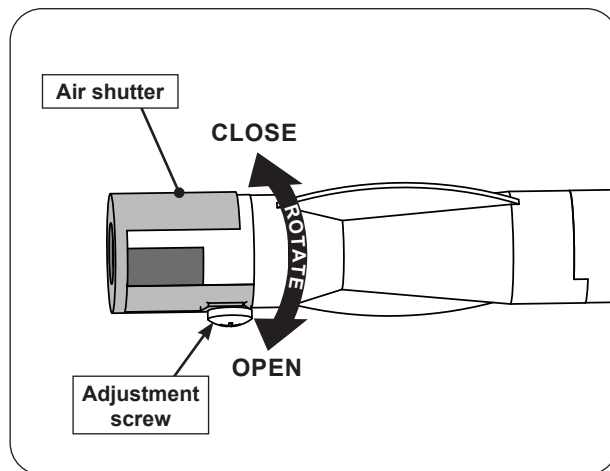

Fig. 56-1 Double side burner air shutter adjustment detail
2. Loosen the adjustment screw with a screwdriver, then carefully rotate the shutter to open or close it. See Fig. 56-1 for details.